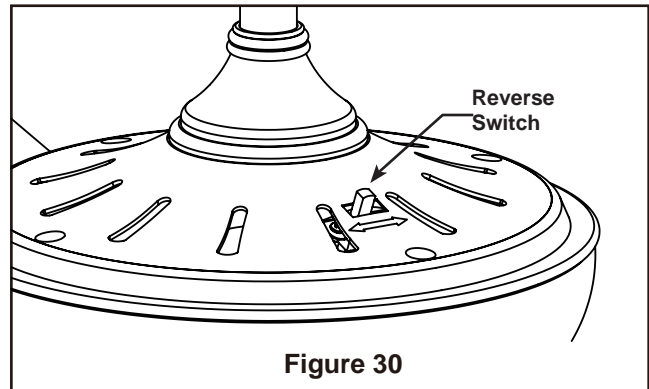

Figure 30
- 4. If airflow is desired in the opposite direction, turn the fan off and wait for the blades to stop turning. Then slide the reverse switch on top of motor assembly to the opposite position and turn fan on again (Figure 30).